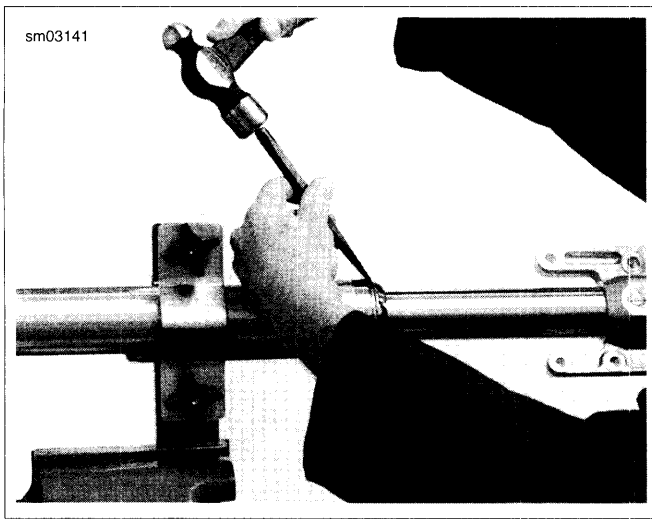

Figure 2-157. Remove Chrome Dust Cover
- See Figure 2-157. Using FORK HOLDING TOOL (Part No. HD-41177), mount fork assembly in vise.